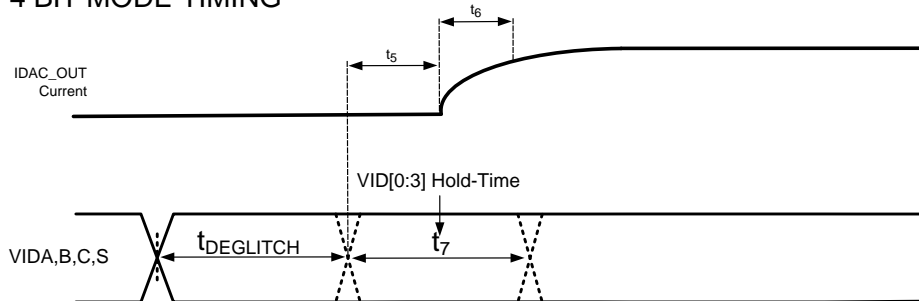

图 1. Timing Diagram for LM10011 Communications
(5) For VID timing, see 图 1.
Four pins are used to communicate with the LM10011. In 6-bit mode (MODE = 0), VIDA, VIDB, and VIDC are data lines, while VIDS is a latching strobe that programs in the LM10011 data. As shown in the 6-bit mode timing diagram of 图 1, the falling edge of VIDS latches in the data from VIDA, VIDB, and VIDC as the lower three LSB of the IDAC_OUT value, [2:0]. After a minimum hold time (t_2), the rising edge of VIDS latches in the data from VIDA, VIDB, and VIDC as the upper three LSB of the IDAC_OUT value, [5:3]. Internally, a delay (t_3, t_1) on VIDS allows for the setting of all VIDA, VIDB, and VIDC lines to change simultaneously as VIDS rises or falls.
The LM10011 includes a 4-bit mode to facilitate parallel VID communication. In 4-bit mode (MODE = 1), VIDC, VIDB, VIDA, and VIDS are all parallel data lines. As shown in the 4-bit mode timing diagram in 图 1, a changing edge of any of the VID communication lines will change the IDAC_OUT current to the corresponding new 4-bit value found on the data lines. There is a 3- μ s deglitch filter to eliminate spurious noise events. The data must overcome the deglitch time and the minimum hold time (t_7) or else the IDAC_OUT pin current may not reflect the value indicated at the VID data inputs. During the hold time, no other data line can be transitioned.